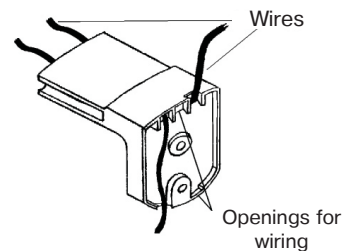

Figure 4
9.3 Remove port plugs for wire installation at the swivel bracket. Run the wires through the swivel bracket openings and fasten the swivel bracket at the chosen place on the wall (See Figure 4).